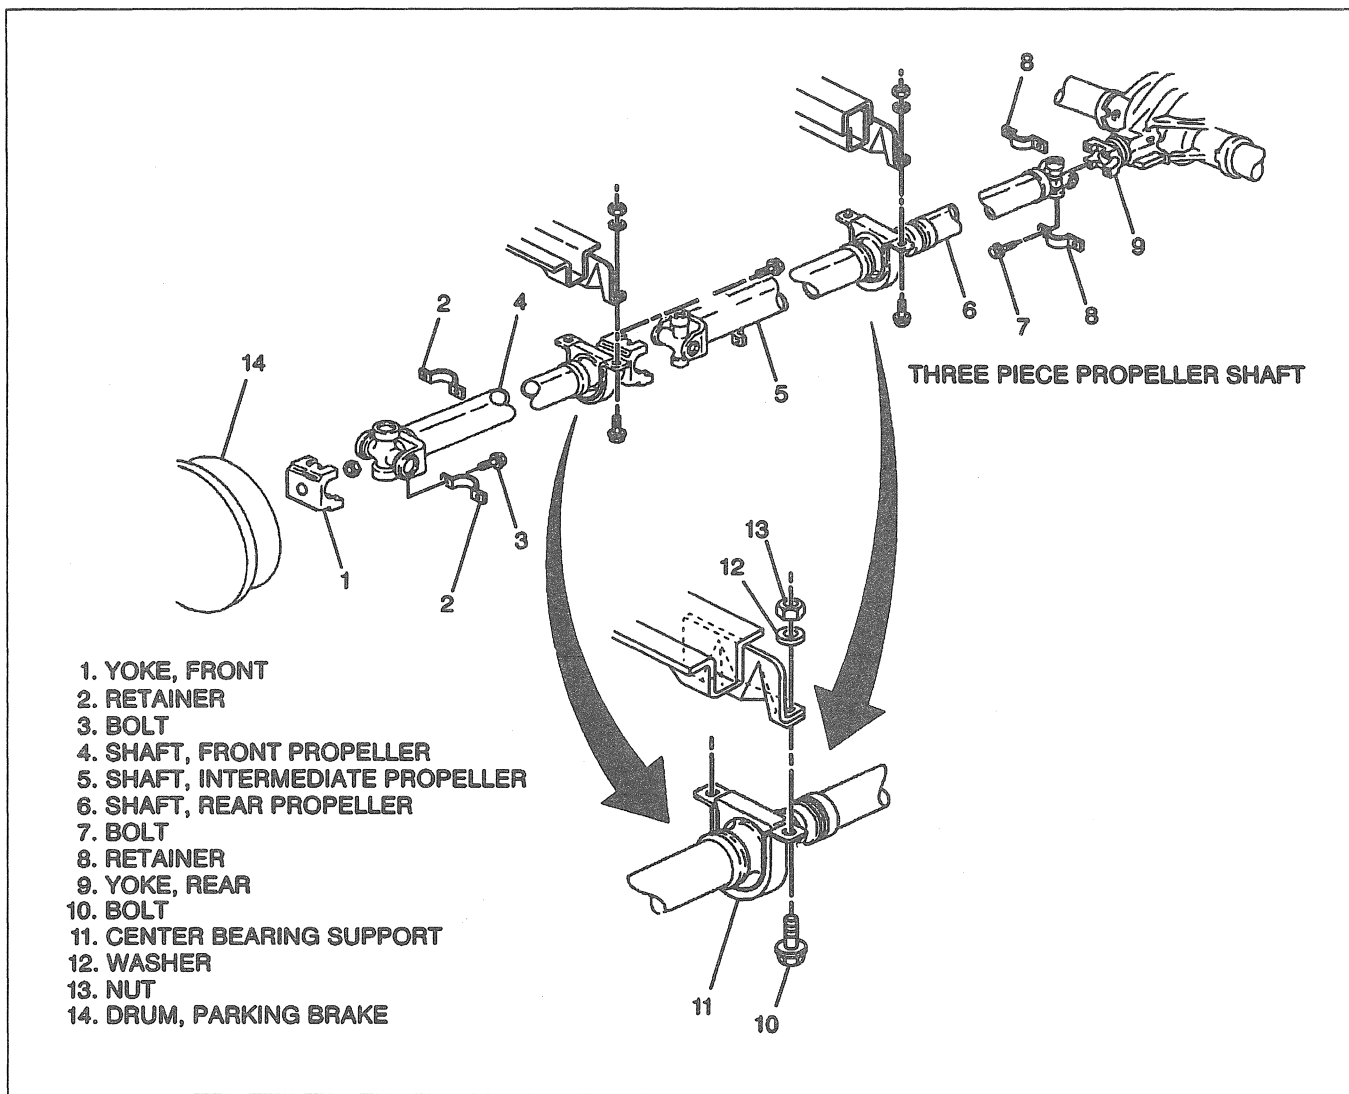

Figure 11—Three-Piece Propeller Shaft
- Nuts to 35 N.m (26 lb. ft.). Maintain alignment (Figure 11).
- Align the center bearing support 90 degrees to both the front and intermediate propeller shaft centerlines (Figure 11).
Remove or Disconnect (Figure 11)